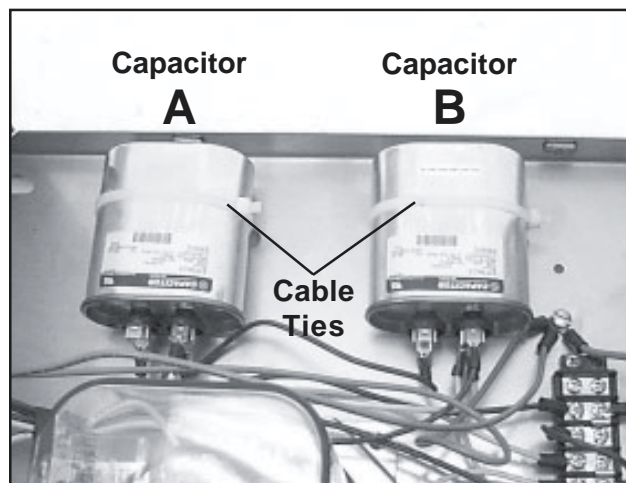

Figure 127. Capacitors in Electrical Box
There are two capacitors in the electrical box (Figure 127). They are identical and are replaced in the same way. Replacing a capacitor requires extensive disassembly of the cubicle.
10. Cut the cable tie (Figure 127) that holds the capacitor in the electrical box and discard the tie.